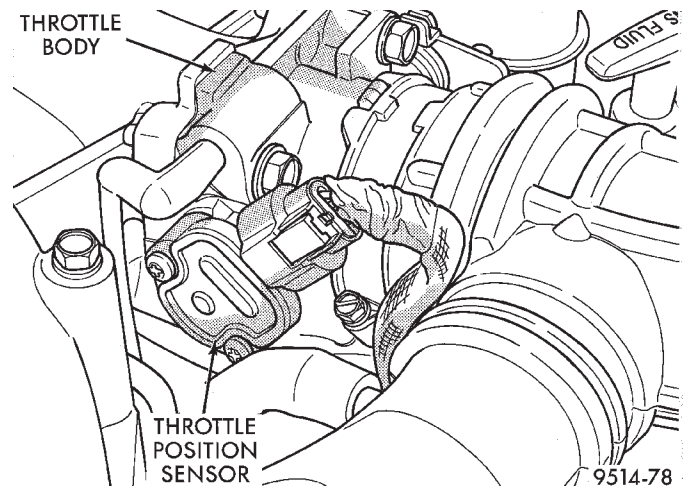
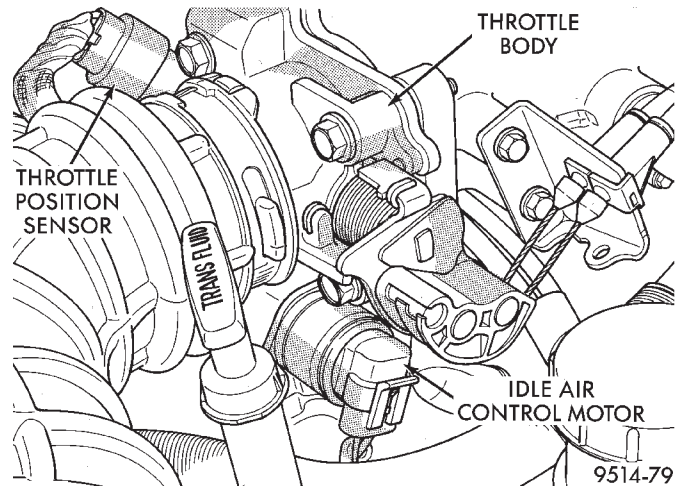

Fig. 32 Throttle Position Sensor
Fig. 33 Idle Air Control Motor
(8) Release snaps holding air cleaner housing cover to housing.
(9) Remove air cleaner cover and inlet hoses from engine.
(10) Unplug TPS and idle air control motor connectors (Fig. 32) and (Fig. 33).